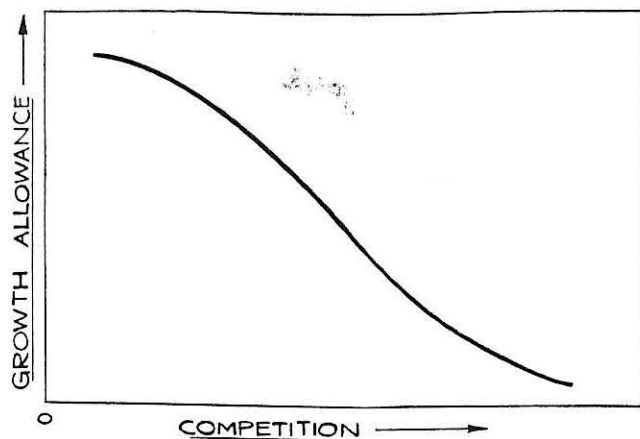

FIGURE 1
**Competitive Factor:** About the only criterion for judging, in general terms, such a growth allowance scheme for commercial airplanes, is to assess the allowance against a "competitive factor." In other words, whatever the airplane has to compete with, will limit the growth allowance in the blueprint stage (Figure 1). For a large transport airplane, being designed for the blue ribbon airlines on the trans-Atlantic or trans-Continental run, there is probably very little initial growth allowance possible. The route is too competitive. On the other hand, there are Ford Tri-motors, of the late